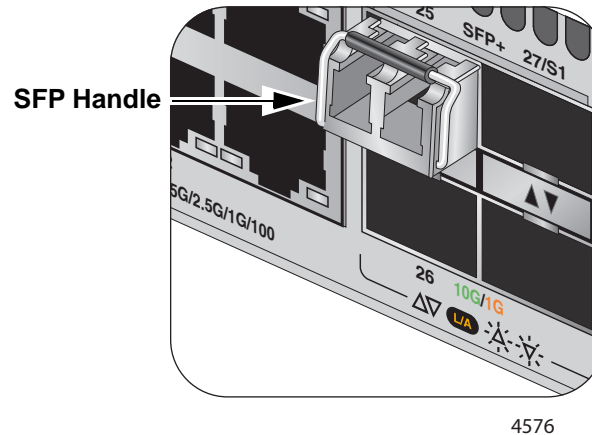

Figure 33. Positioning the SFP or SFP+ Handle in the Up Position
5. Verify the position of the handle on the transceiver. If the transceiver is in a top port, the handle must be in the up position, as shown in Figure 33. If the transceiver is in a bottom port, the handle must be in the down position.